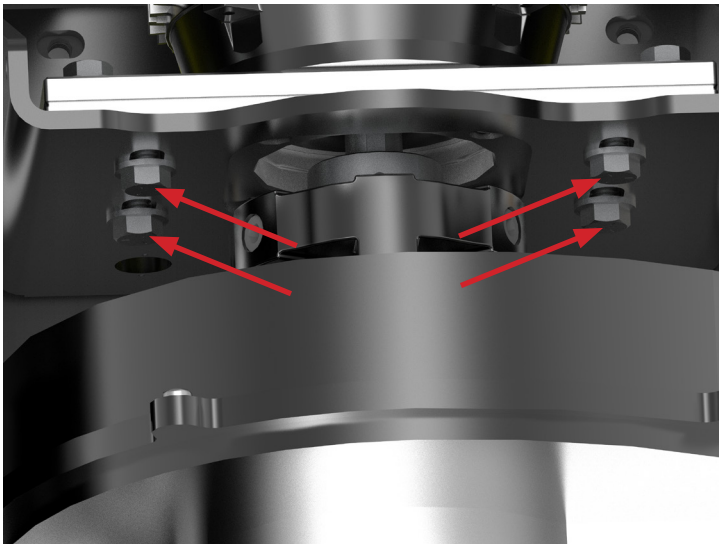

Figure 20
**NOTICE** Do not loosen the hex head screws (see Figure 20) that secure motor adapter plate 2 to the motor support bracket.